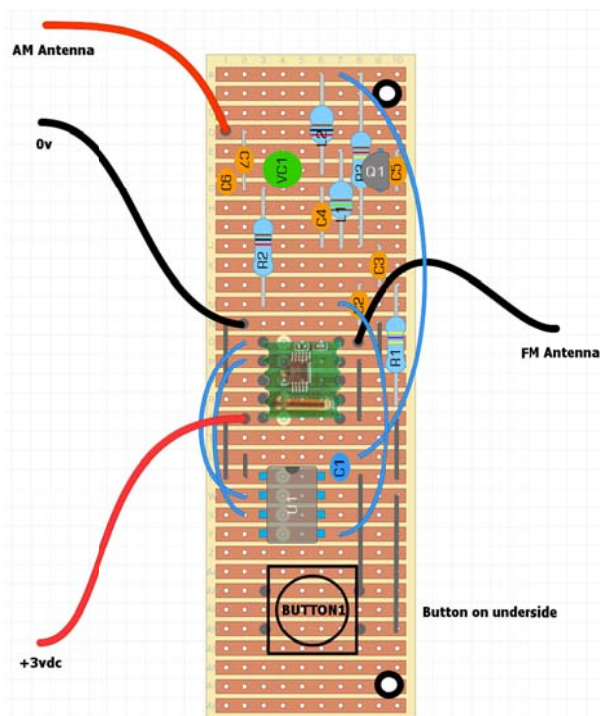

Figure 2 - Stripboard layout
A fine tipped soldering iron should be used to avoid damaging the board and components. The circuit is constructed on stripboard (veroboard) with the component positions placed as shown in Figure 2. The copper tracks are shown in the figure, but are actually on the underside of the board.
1. Cut a piece of stripboard so that it has 34 strips by 10 holes wide. Using Figure 2 as a reference. Begin by soldering the discrete components, resistors R1 – R3, capacitors C1 – C7, VC1, inductors L1, L2.